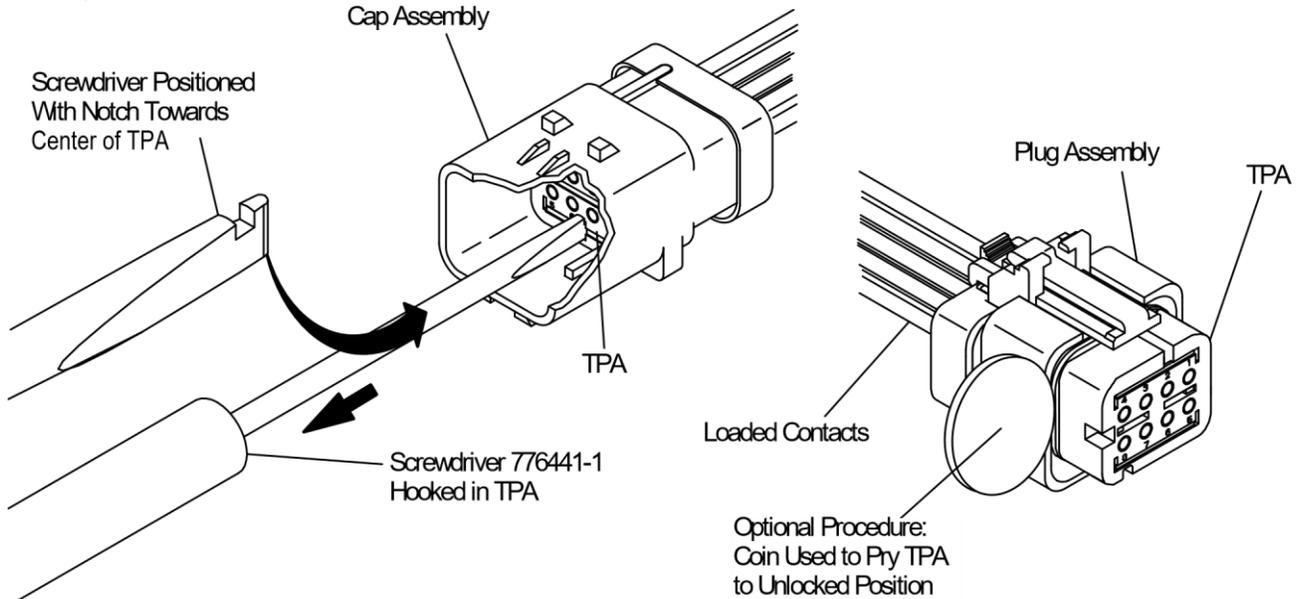

Figure 13
3. Insert contact/TPA Removal Tool or reasonable substitute, into the extraction tool slot in the plug or cap assembly TPA as shown in Figure 13. Orient the removal tool so the notch in the tool is facing the centerline of the TPA. Hook the removal tool firmly against the edge of the slot and pull on the TPA until it is completely removed from the housing assembly. Retain the TPA for use with the connector assembly after the contacts are replaced.
An optional procedure to unlock the plug TPA is to place a coin edge under the edge of the TPA and pry it to an unlocked position. To continue removing the TPA, twist the coin under the edge of the TPA. See Figure 13.